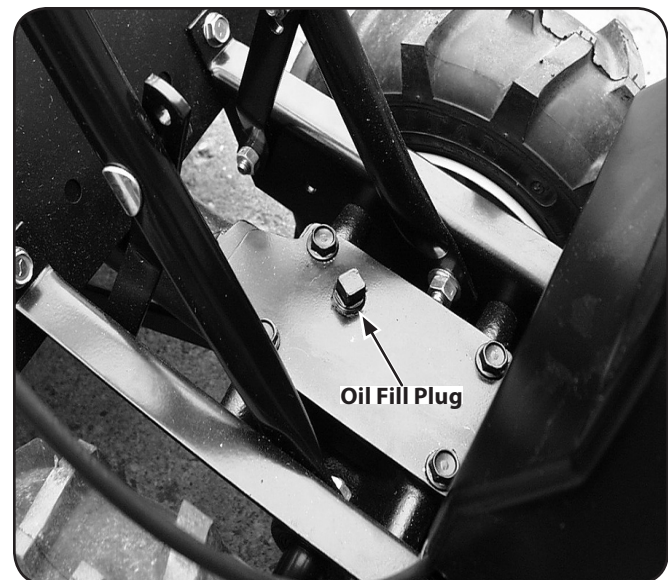

Figure 3-9
2. Remove the oil fill plug from the transmission housing cover and locate the main drive shaft situated inside the housing. See Fig. 3-9.